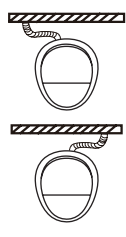

Fig.13
- By referring the relative position between wall hole and unit body, please select left elbow pipe or right elbow pipe. (As show in Fig.13)